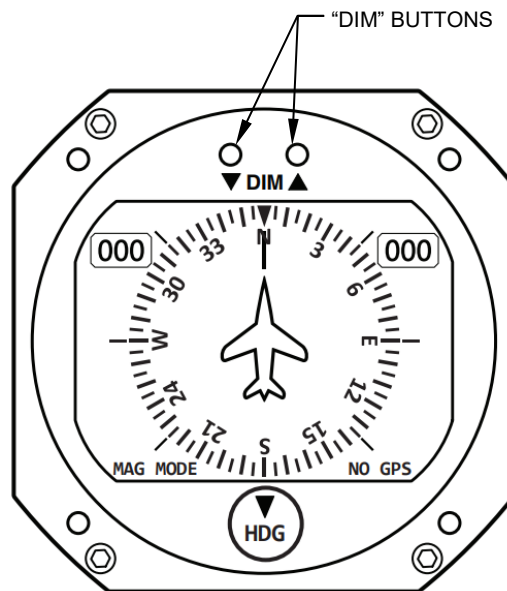

Figure 1
The heading indicator has brightness adjustments that can be adjusted in flight. On start-up, the instrument defaults to maximum brightness. The brightness controls are located at the top of the instrument and have an “up” (▲) arrow next to the button that increases brightness and a “down” (▼) arrow next to the button that reduces brightness. Reference Figure 1. Quickly pressing both buttons simultaneously will return the display to its maximum brightness.
On the heading instrument, the “MAG MODE” and “NO GPS” mode indicators will be lit on start-up. The “MAG MODE” indicator signifies that the instrument does not have a GPS signal and is operating as a stabilized magnetic heading indicator. Reference Figure 1. The “MAG MODE” indicator will stay lit until the instrument is able to acquire a GPS signal and/or the aircraft reaches a speed exceeding ten knots at which time the GPS input will become active. In the event the heading indicator loses GPS signal in flight, the “NO GPS” indicator will illuminate. The instrument will continue to work as a magnetic heading instrument and no special intervention is required on the part of the flight crew. When operating in “MAG MODE” the instrument will display magnetic heading based on the direction the aircraft is pointing, not the direction of travel.
- i. While in flight, and after at least three minutes after turning on the instrument, depress and hold the two “DIM” buttons simultaneously for about ten seconds until the message “Gathering Mag Data” is displayed on the instrument. The instrument will gather data for the next ten minutes. Reference Figure 1.